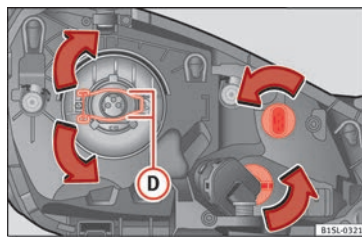

Fig. 85 Left headlight
3. Press the retaining clip » Fig. 85 **D** downwards in the direction of the arrow, unclip sideways, and remove it.
6. Insert the bulb, return it to its position and insert the retaining clip » Fig. 85 **D**